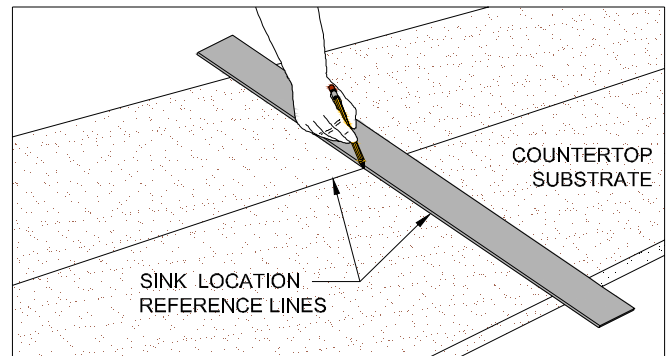

Figure 19A
- Draw the sink location on the substrate with a vertical and horizontal cross hair. (FIG. 19A)